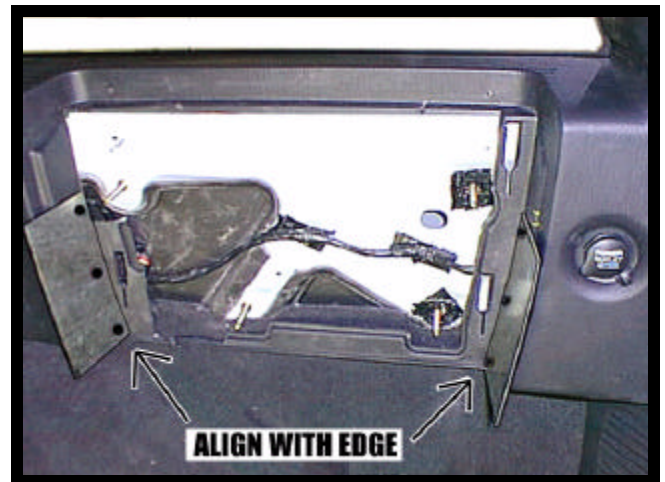

FIGURE 6
7. Install (2) two housing mounting brackets (item 8 pg 2) as shown and secure using (3) three # 8 X 9/16" screws (item 6 pg 2) on each side. See Figure 6.